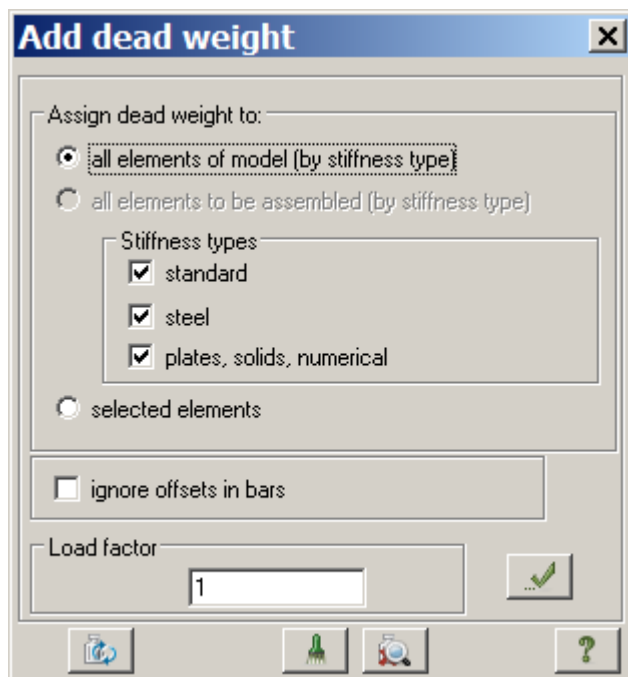

Figure 6.12 **Add dead weight** dialog box
- ⇒ In the **Add dead weight** dialog box (see Fig.6.12), click **All elements** and specify **Load factor** as equal to 1. Then click **Apply**  (dead weight of elements is applied according to the specified unit weight Ro).